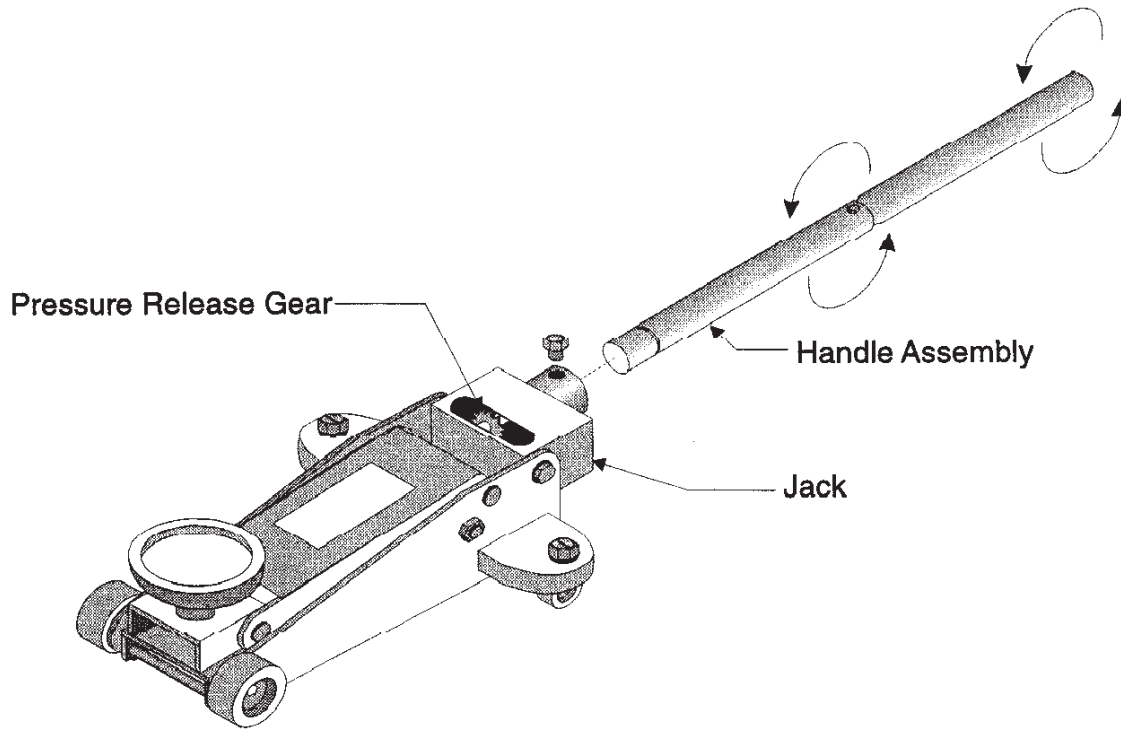

Figure 3 -- Closing Pressure Release Valve
Step 1: Twist the Handle Assembly clockwise to close the pressure release valve as shown in Figure 3.